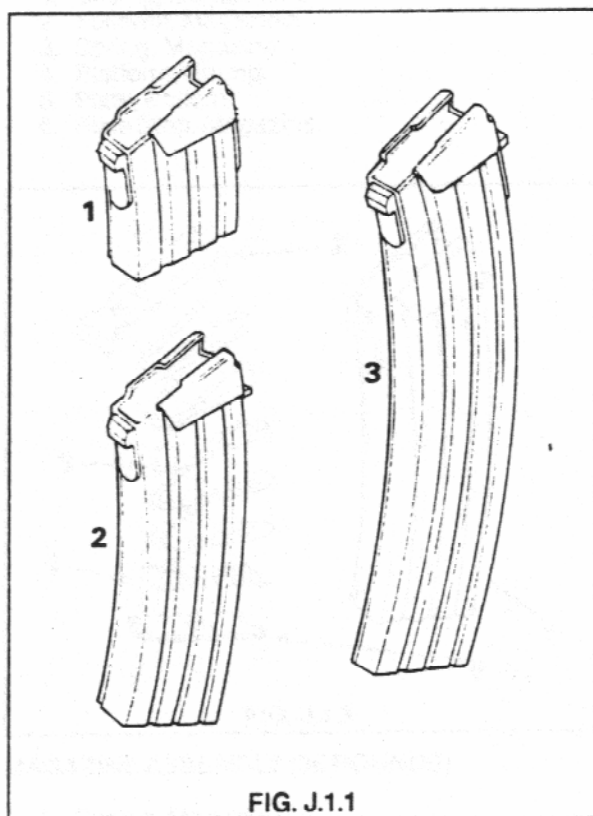

FIG. J.1.1
1. The magazine for the R4 Assault Rifle is available in three sizes, 12, 35 and 50 rounds capacity. The 12 round magazine is used for grenade launching only and must contain type M19S grenade rounds. The 35 and 50 round magazines are for normal operation use. Each of the different size magazine assemblies consists of a two part sheet metal ribbed casing spot welded together. The magazine opening is reinforced with sheet metal stiffeners. See Fig. J.1.1